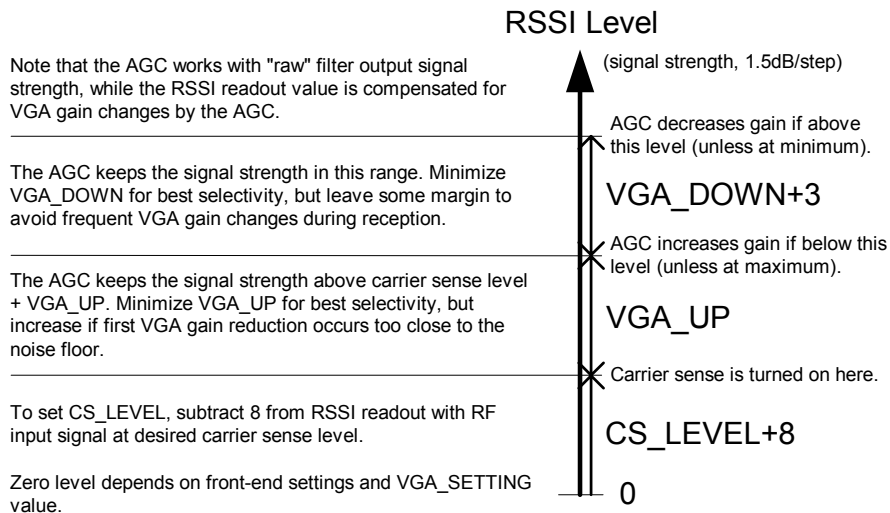

Figure 18. Relationship between RSSI, carrier sense level, and AGC settings *CS_LEVEL*, *VGA_UP* and *VGA_DOWN*
A digital RSSI is used to measure the signal strength after the ADC. The *CS_LEVEL[4:0]* in the *VGA4* register is used to set the nominal operating point of the gain control (and also the carrier sense level). Further explanation can be found in Figure 18.
5. If desired, adjust the *VGA_UP* and *VGA_DOWN* settings according to the explanation in Figure 18.
$CS_LEVEL[4:0]$ must be changed accordingly to maintain the same absolute carrier sense threshold. See Figure 18 for an explanation of the relationship between RSSI, AGC and carrier sense settings.